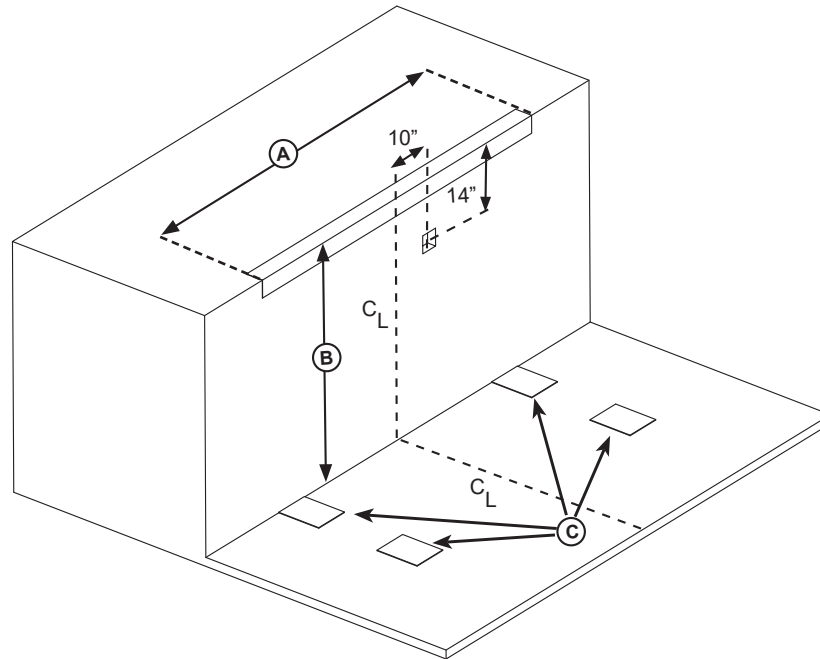

Figure 5
1. Check the entire dock leveler opening for proper construction according to approved/certified pit drawings. Make sure that the walls of the opening are plumb and square. Check dock height, location of imbed plates, curb steel and J-box. See Figure 5 for example.
2. Make sure the field junction box for the dock leveler is at the correct location per **Figure 5**.